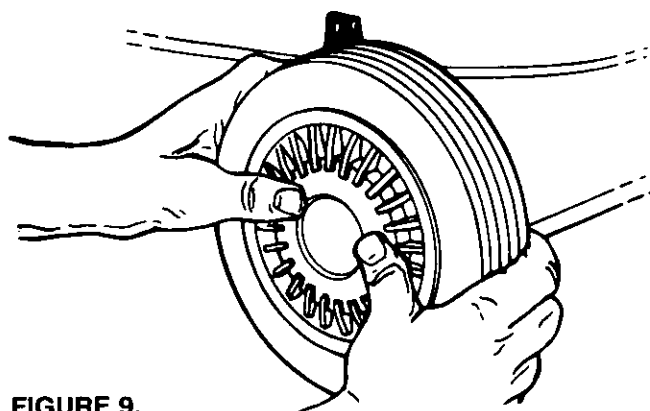

FIGURE 9.
1. Place hub caps in position against the inner hub of the wheel. Press firmly around the center portion of hub cap in a circular motion, similar to installing a lid on a round, plastic container. See figure 9. The hub caps are flexible and will snap over the wheel hubs.